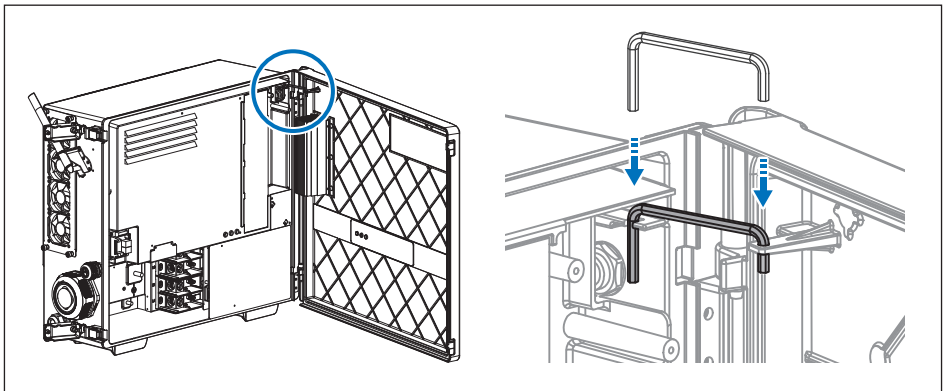

Figure 5-2: To secure door by hexagon driver
3. Open the front door and use the hexagon wrench to fix the door as **Figure 5-2**.
3. Remove the hexagon wrench (**Figure 5-2**) and close the door.